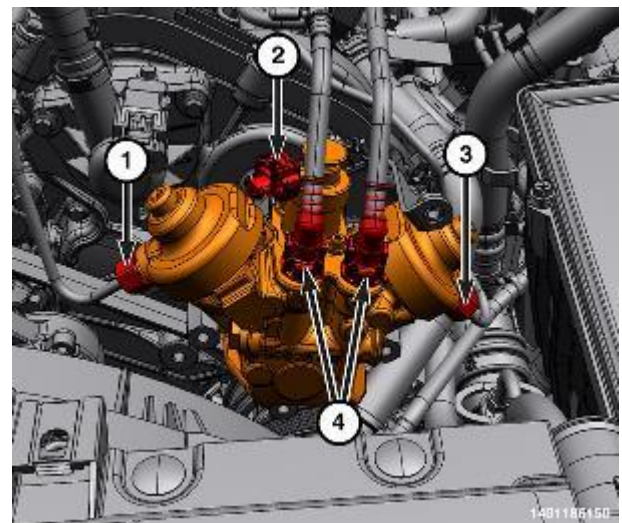

Figure 103 – Fuel Rail Supply Tubes
18. Disconnect the low-pressure fuel supply/return lines (4) (Figure 103).
19. Disconnect the fuel quantity solenoid wire harness connector (2) (Figure 103).
20. Remove the fuel rail supply tubes (1 and 3) from the HPFP (Figure 103).